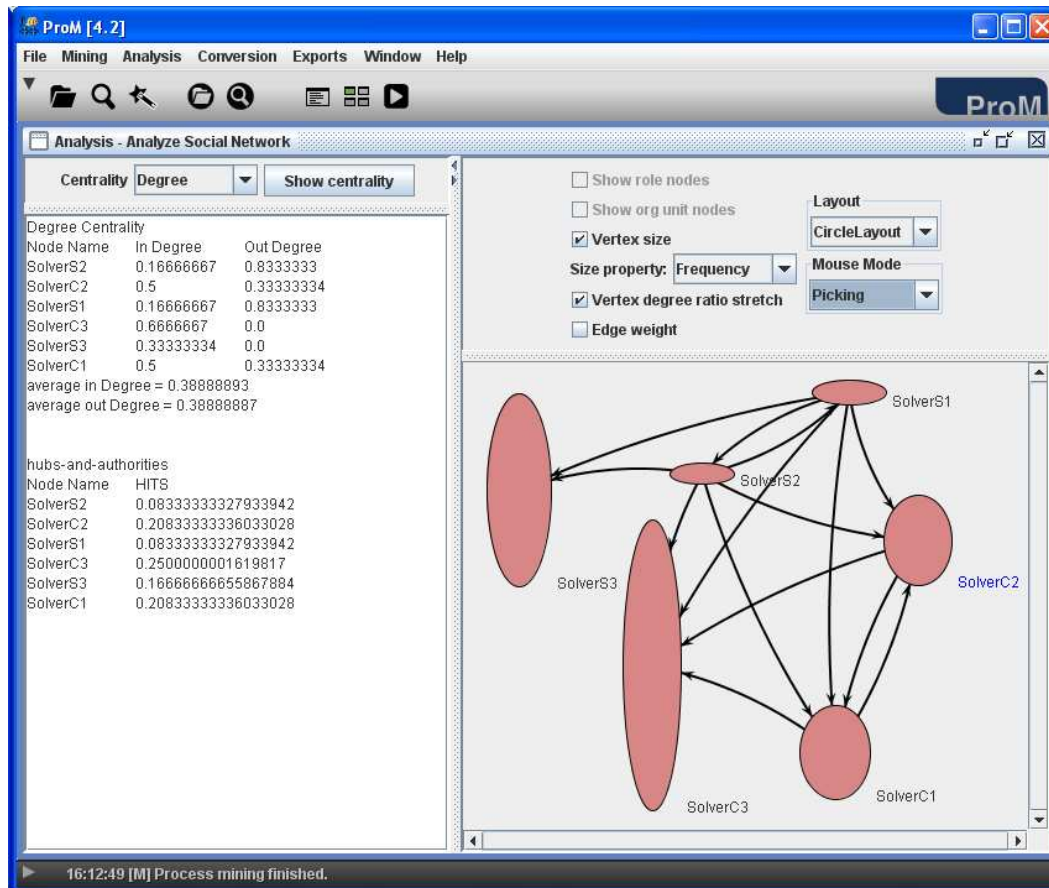

Figure 3.6: Screenshot of the mining plug-in *Analyzer Social Network*.
5. Run the *Analyze Social Network* by choosing the menu option *Analysis*→*SNA*→*Analyze Social Network*. Select the options “Vertex size”, “Vertex degree ratio stretch” and set *Mouse Mode* to “Picking” (so you can use the mouse to re-arrange the nodes in the graph). The resulting graph (cf. Figure 3.6) shows which employees handed over work to other employees in the process instances of our running example. By looking at this graph, we can see that the employees with roles “SolverS3” and “SolverC3” outperform the other employees because the telephones these two employees fix always pass the test checks and, therefore, are not re-sent to the Repair Department (since no other employee has to work on the cases involving “SolverS3” and “SolverC4”). The oval shape of the nodes in the graph visually expresses the relation between the *in* and *out* degree of the connections (arrows) between these nodes. A higher proportion of ingoing arcs lead to more vertical oval shapes while higher proportions of outgoing arcs produce more horizontal oval shapes. From this remark, can you tell which employee has more problems to fix the defects?